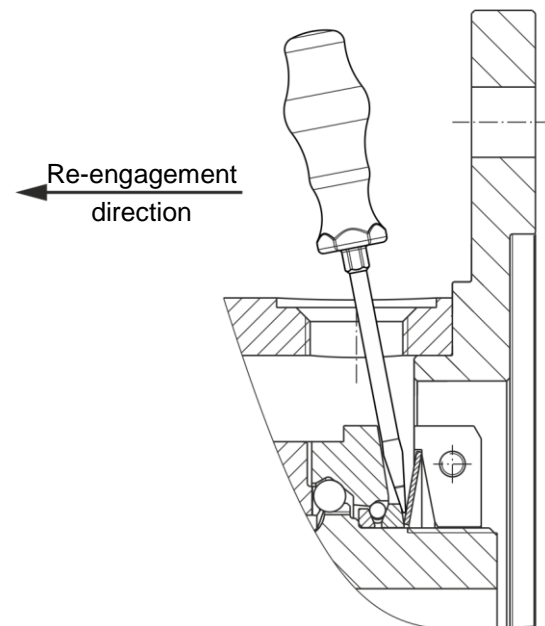

Fig. 4
Please observe the maximum shaft length h_1 (see Table 3 and Fig. 4).
Re-engagement (Fig. 4)
There are two bores (180° offset to one another) for manual clutch re-engagement. They are locked with screw plugs (14). In order to re-engage the clutch, at least one of the two screw plugs (14), including its O-ring (15), must be loosened and removed. EAS®-Compact® overload clutch re-engagement is carried out by applying axial pressure to the thrust washer (1.3) in the direction of the output (flange Y) using a suitable lever tool (Fig. 4). It may be necessary to turn slightly between the pressure flange (1.2) and the thrust washer (1.3).